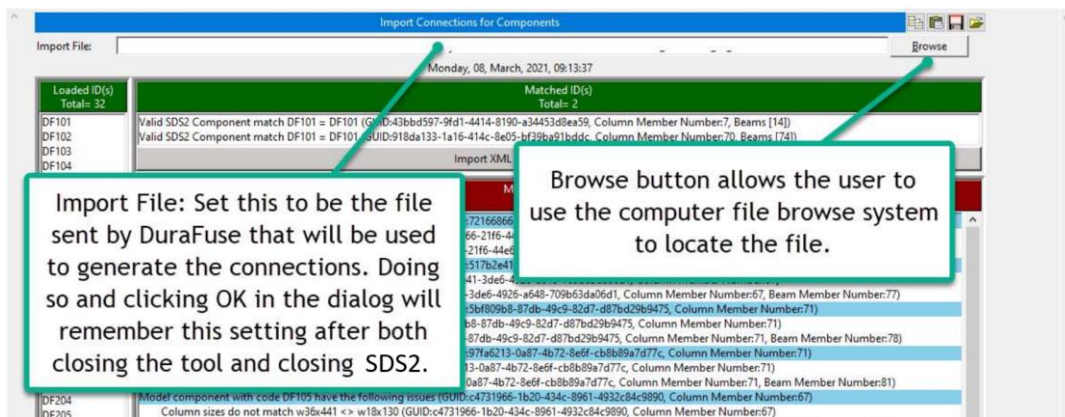

Figure 13. Locate and Import XML Data
2. After selecting the XML tool, the main dialog will pop up. **Browse** to the saved XML file as shown in Figure 13.